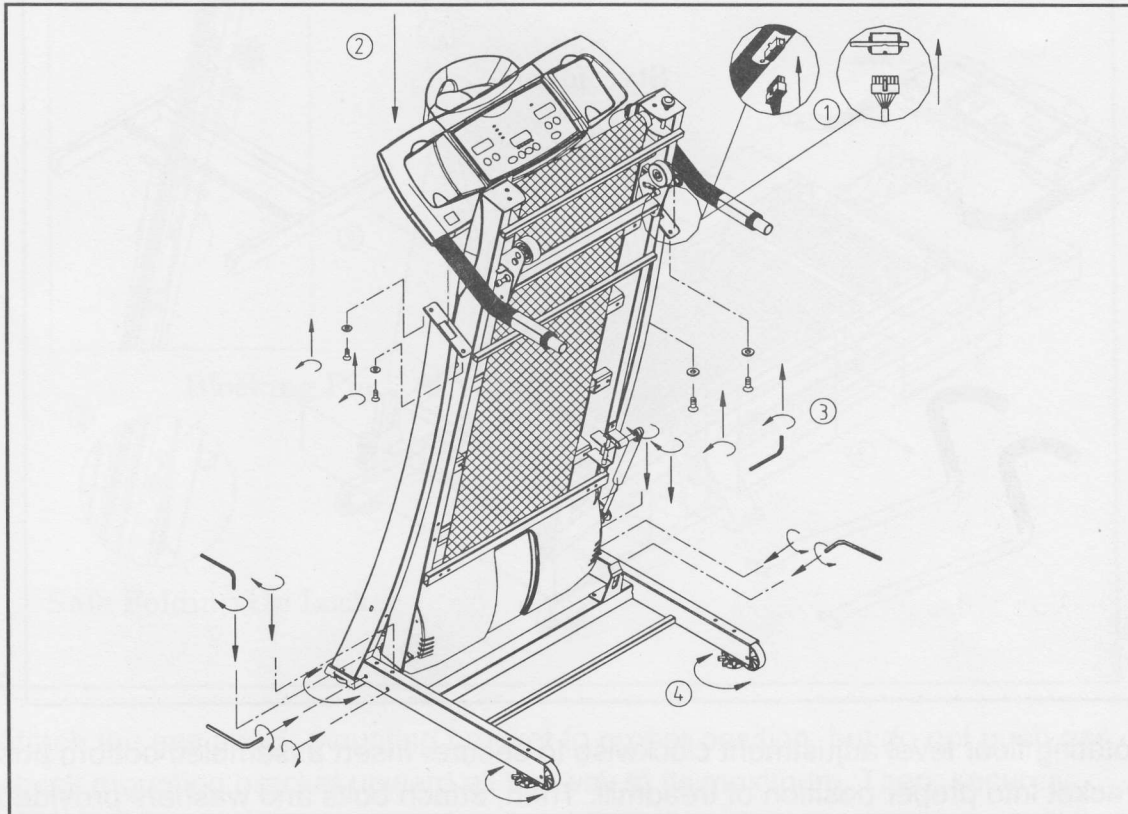

Fig.5
5. Please connect the ribbon cable securely to handlebar, and attach bolts and washers provided into proper position of electronic package and of bottom post bracket without fully tighten. Then, use hex allen wrench provided to securely tighten all bolts. Turn the floor level adjustments located on front and rear of bottom post bracket to steady your treadmill. (See Fig. 5)